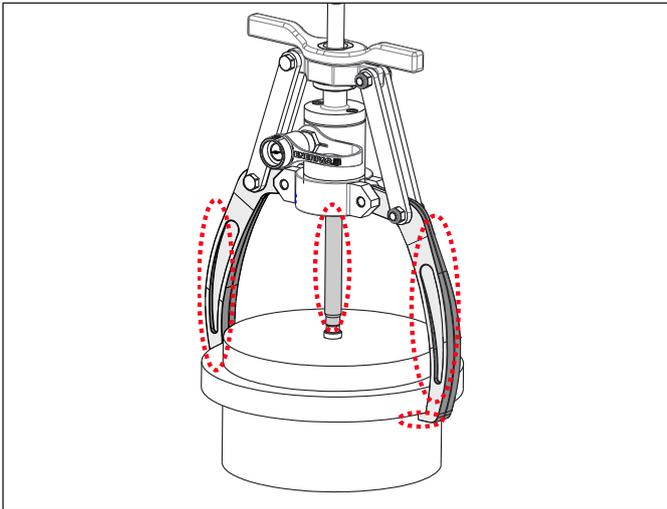

Figure 5, Checking for Deformation
- During operation, watch the puller for indications of jaw or spindle deformation. See Figure 5. If any deformation is noticed, stop the pump immediately.